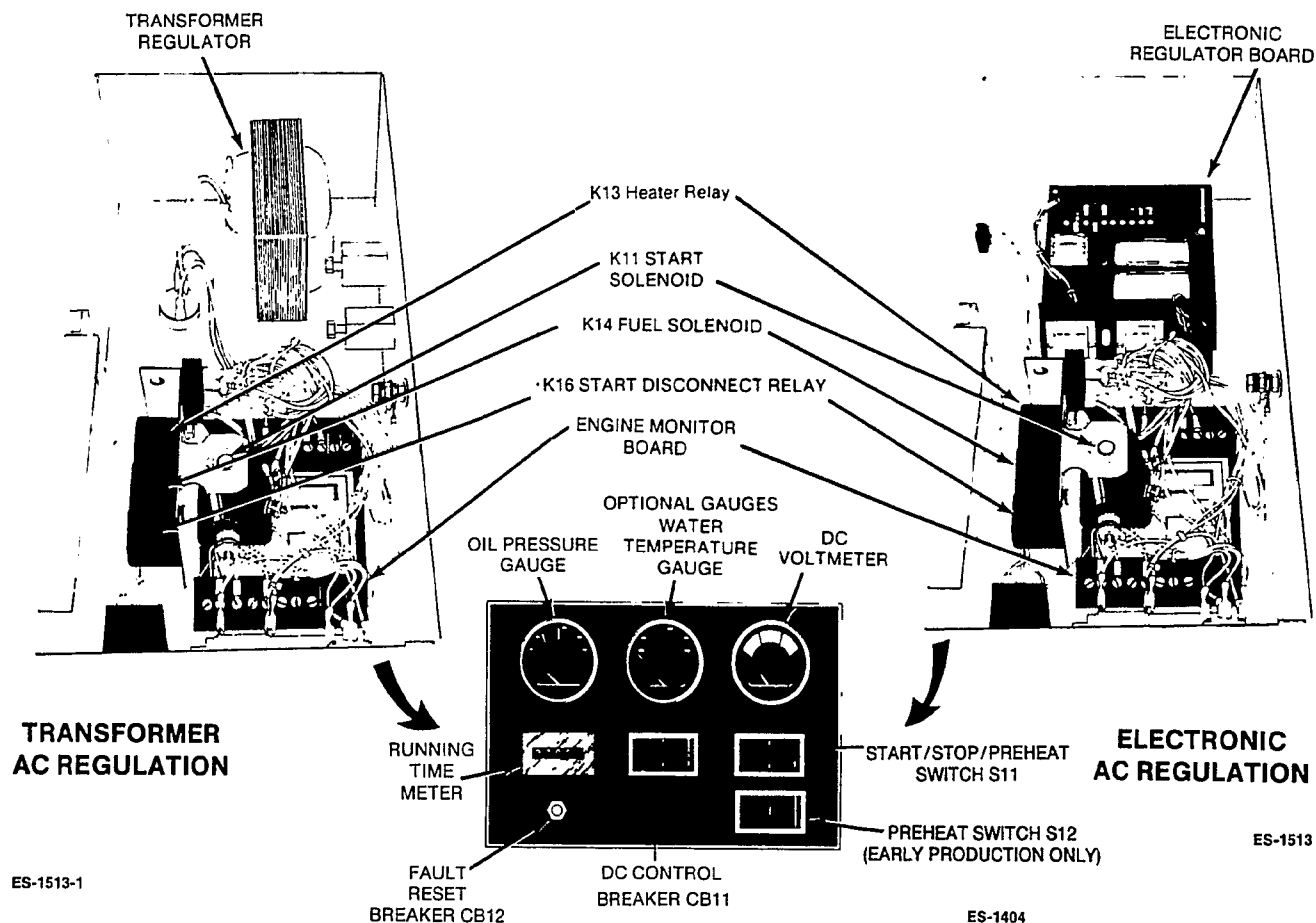

FIGURE 2-1. MDKC/MDKC CONTROL BOX
**Oil Pressure Gauge (Optional):** Shows engine lubricating oil pressure. The gauge has a range of 0 to 100 psi (0 to 700 kPa) and is connected to an engine sensor. See Figure 2-1.
**Engine Monitor Circuit Board:** A printed circuit board that monitors engine control system functions. This includes starting, stopping, and fault system operation. A terminal board is included for making remote connections. See Figure 2-1.
To troubleshoot a problem, start at the upper left corner of the chart and answer all questions either YES or NO. Follow the chart until the problem is found, performing referenced adjustment or test procedures. Refer to Figures 2-1 through 2-4 to locate control components.